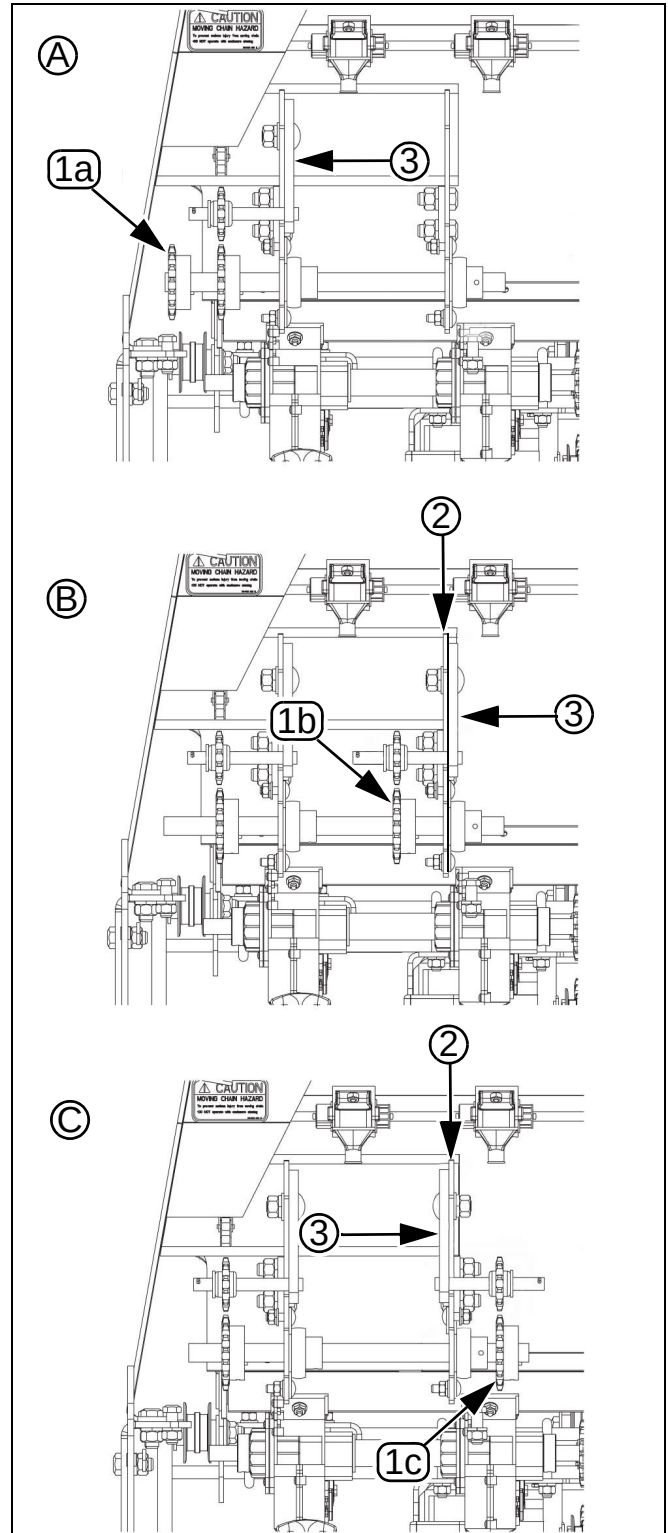

Figure 4
4. Install two idler rollers (5) onto the left side of the jackshaft mount at the cutout slots using the HHCS bolts (7), spacers (6), washers (4), and flanged lock nuts (3).
5. Slide the 40C12 x $\frac{7}{8}$ hex bore sprocket (22) onto the end of the jackshaft protruding from the left side of the auxiliary jackshaft mount. Insert roll pins (17) into the end of the auxiliary jackshaft, and to the right side of the bearing mounted on the auxiliary jackshaft mount.
6. Align 12-tooth sprocket (22) with 12-tooth sprocket on small seeds box by sliding jackshaft mount right or left. Tighten U-bolts when aligned.
7. Slide the 40C22 x $\frac{7}{8}$ hex bore sprocket (14) and lock collar (15) up against the bearing mounted on the gearbox mount side plate. Tighten each set screw (16).
8. Install 40B19 x 36T spline bore sprocket (2) onto gearbox and fasten with snap ring (1).
9. Route the RL #40, 70PT chain (23) onto the drive gear sprocket (2) and the small seeds box auxiliary shaft sprocket (item A in Figure 4.). Adjust idler (5) to remove chain slack.
Refer to Figure 4